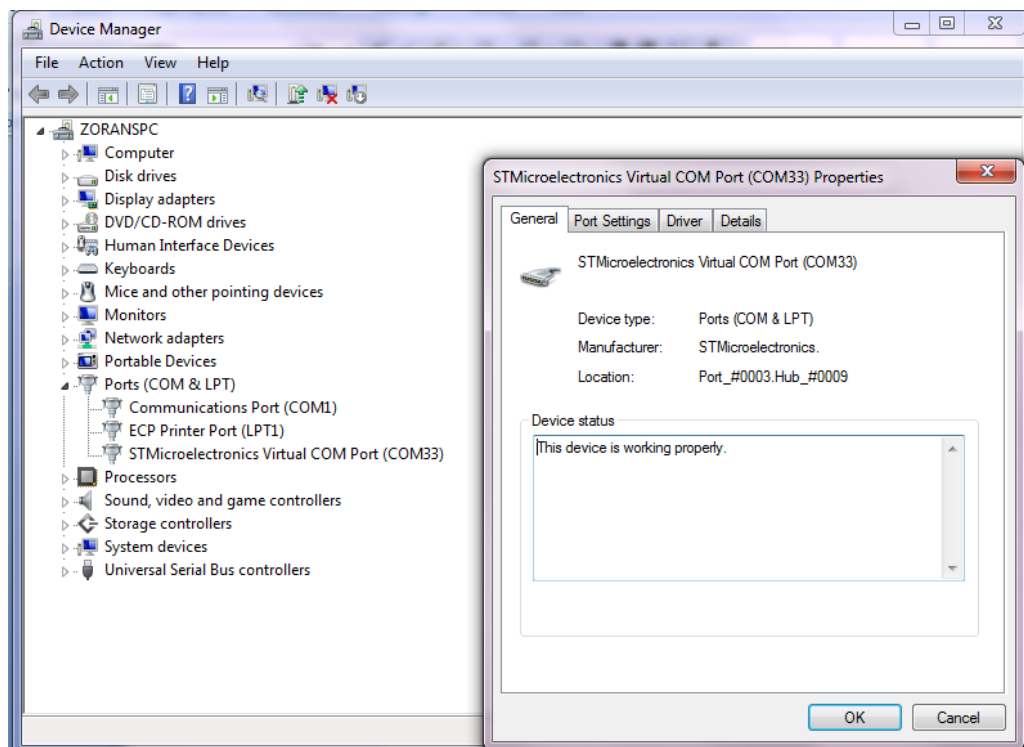
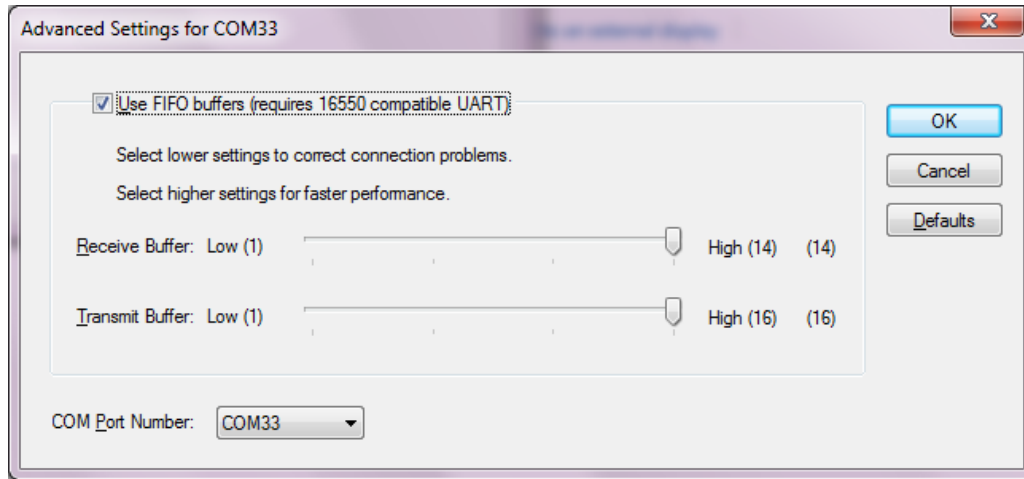

Figure 3 - COM port configuration - properties window
Figure 4 - Advanced settings for COM port
**Note:** the virtual com port number needs to be between 3 and 49. Please change the port number through Control Panel\Hardware and Sound\Device Manager, select Ports and Properties, then \Port Settings – Advanced, as shown in Figure 3 and Figure 4.